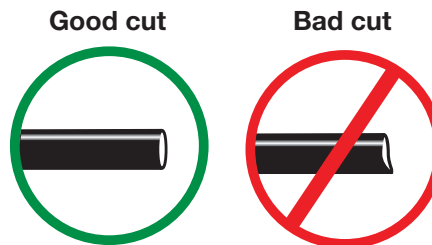

fig. 16
1. Cut the air line in half. Make clean, square cuts with a razor blade or hose cutter (fig. 16). Do not use scissors or wire cutters.
- a. Check the air line connection by deflating the spring and removing the line by pulling the collar against the fitting and pulling firmly on the air line. Trim 1" off the end of the air line. Be sure the cut is clean and square (see fig. 16). Reinsert the air line into the push-to-connect fitting.